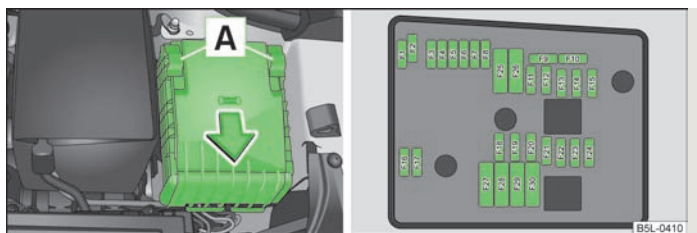

Fig. 168 Fuse box cover in engine compartment/Schematic diagram of the fuse box
- The cover for the fuse box is removed by pushing the circlips  » Fig. 168 upwards as far as the stop. The symbol  is displayed behind the clip. Now remove the cover.